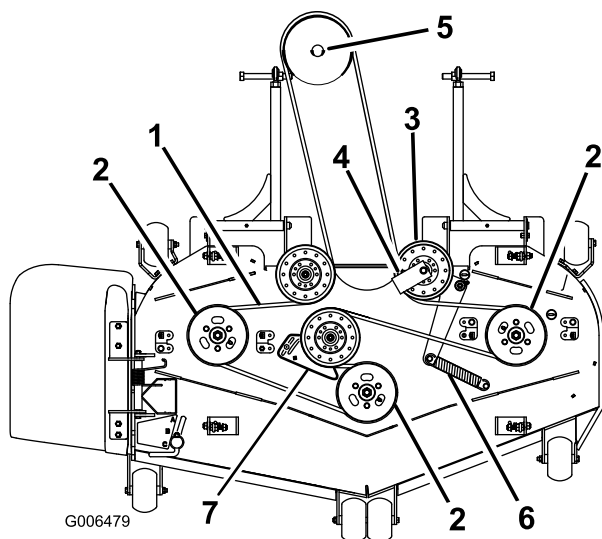
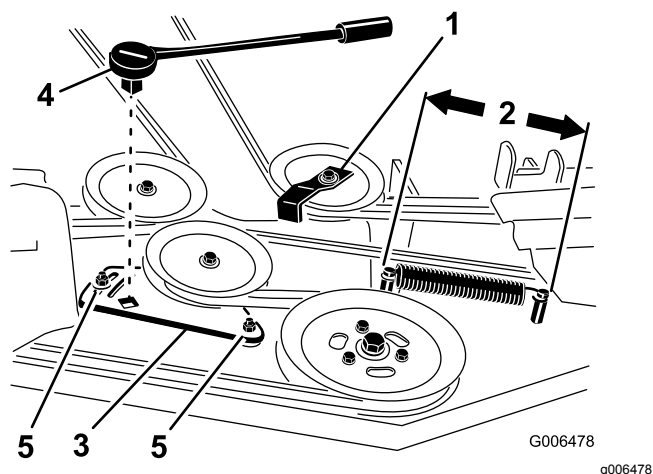

Figure 72
Figure 74
4. For 72-inch mowers, loosen the idler plate bolts holding the idler plate (Figure 74).
6. Remove the belt guide on the spring-loaded idler pulley shown in Figure 72 and Figure 74.
8. Install the new belt around the mower pulleys and the gearbox pulley under the engine (Figure 72).
9. Install the belt guide on the spring-loaded idler at a 45 degree angle as shown in Figure 72 and Figure 74. Torque the bolt to 37 to 45 N·m (27 to 33 ft-lb).
10. Install the idler spring to the 2 posts (Figure 72 and Figure 74).
4. Measure the spring length (Figure 74). If the spring length is between 25.4 to 26 cm (10 to 10-1/4 inches), from post to post, no adjustment is needed.
5. Loosen the bolts holding the idler plate (Figure 74).
6. Insert a ratchet or breaker bar into the square hole in the idler plate to adjust the tension (Figure 74).
7. Rotate the ratchet or breaker bar to move the idler plate until the idler spring is between 25.4 to 26.0 cm (10 to 10-1/4 inches) from post to post as shown in Figure 74.
8. While holding the belt tension and spring length, tighten the idler plate bolts that secure the idler plate (Figure 74).